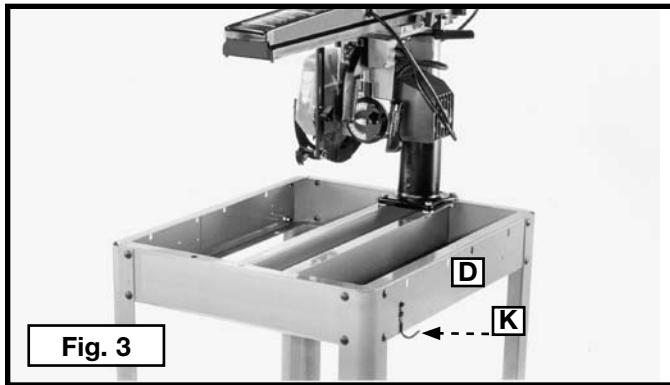

Fig. 3
Attach the wrench hook (K) Fig. 3 to the front right or back left side of saw base (D), using two #10 x 1/2" sheet metal screws.